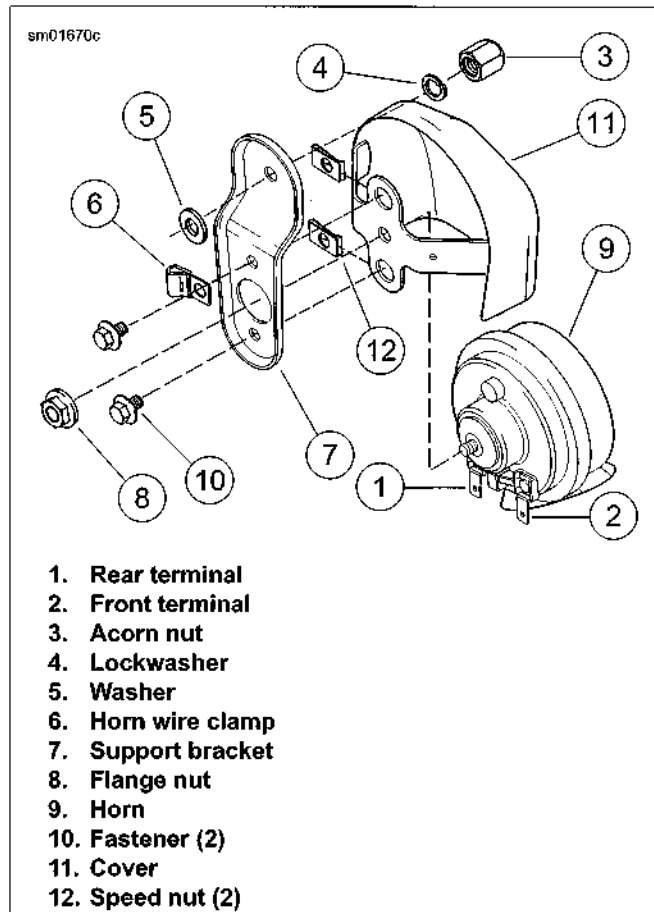
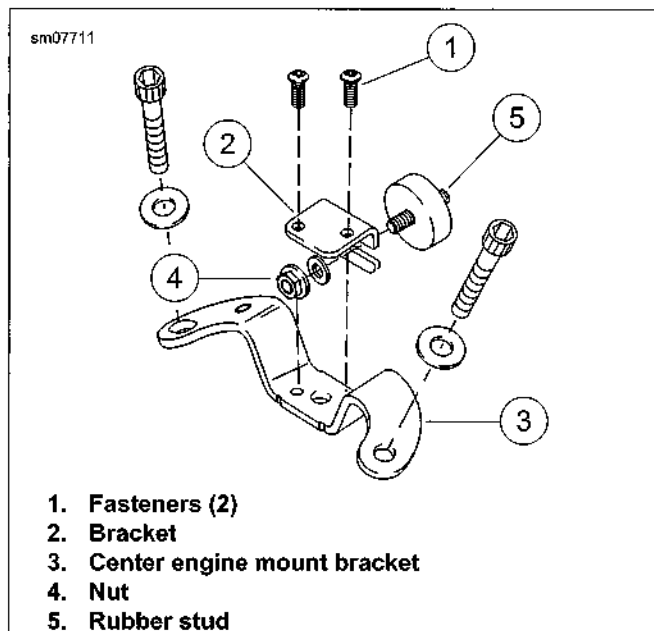

Figure 6-110. Side Mount Horn: XL 1200C/CP/CA/CB, XL 1200T/V
Figure 6-111. Horn Bracket: XL 1200C/CP/CA/CB, XL 1200T/V
- See Figure 6-110. Remove spade connectors from rear (1) and front (2) terminals.
- Remove acorn nut (3), lockwasher (4) and washer (5) to free horn assembly from rubber mount.
- Remove wire conduit from horn wire clamp (6) at back of support bracket (7).
- Remove flange nut (8) and horn (9).
- Remove two fasteners (10) to separate bracket from cover (11).
- Remove speed nuts (12) from cover.
- See Figure 6-111. If necessary, disassemble horn rubber mount and bracket.
- Remove fasteners (1) and horn bracket (2) from center engine mount bracket (3).
- Loosen nut (4) and slide rubber stud out of horn bracket.